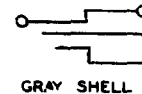

Fig. 15—320B Plug
2.14 320B: The 320B plug (Fig. 15) has the ring connector connected to the plug body and is not designed for cord connections. The 320B plug is used with a P1C cord in the portable test circuit for line finder type district selectors on the line finder frame in Panel Dial Systems. The 320B replaces the 320A and D-85619 plugs and is used with the 49- or similar-type jacks.